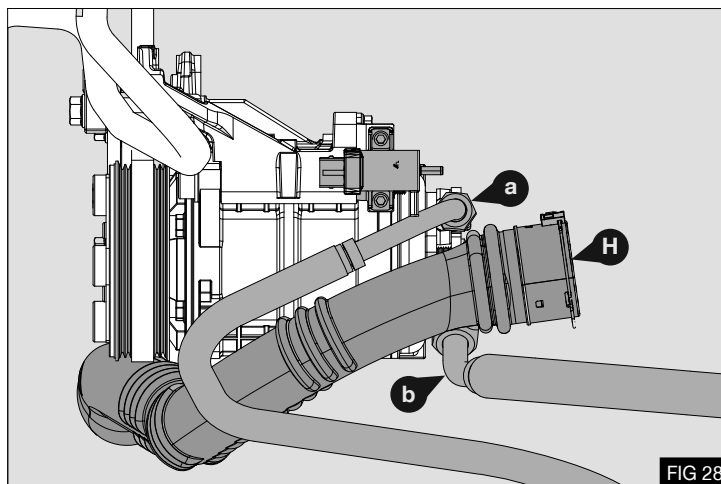

FIG 28
1. Fit compressor hoses as shown - Fig 28 & 29
2. Re connect air pipe (H) once the hoses are correctly installed - Fig 28